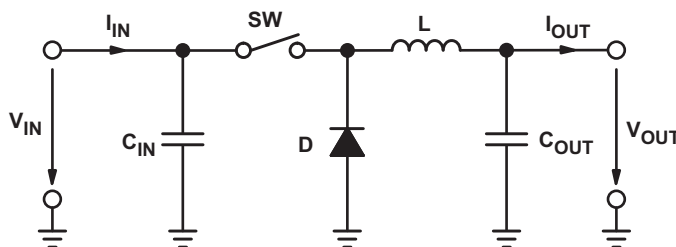

Figure 1. Buck Converter Power Stage
Figure 1 shows the basic configuration of a buck converter where the switch is integrated in the selected integrated circuit (IC). Some converters have the diode replaced by a second switch integrated into the converter (synchronous converters). If this is the case, all equations in this document apply besides the power dissipation equation of the diode.